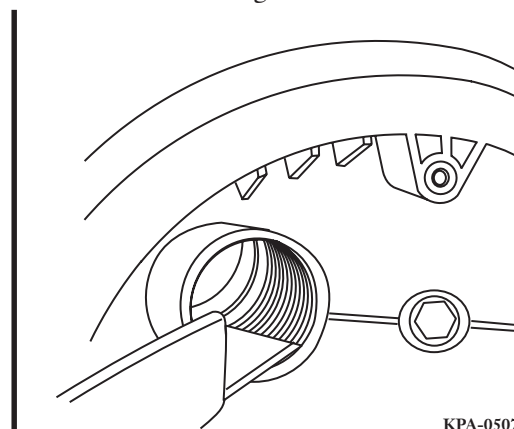

Figure 22 — Smooth Port Opening
- Step 2** Smooth the port opening using a cable knife as shown in Figure 22.